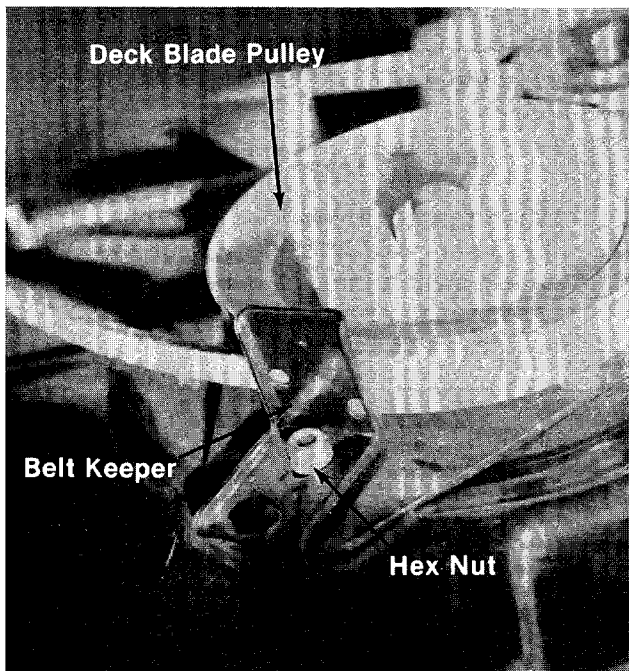

FIGURE 36.
5. Remove the belt keeper located at the right hand side of blade pulley on deck. A 1/2" wrench is required to remove the hex nut. See figure 36.